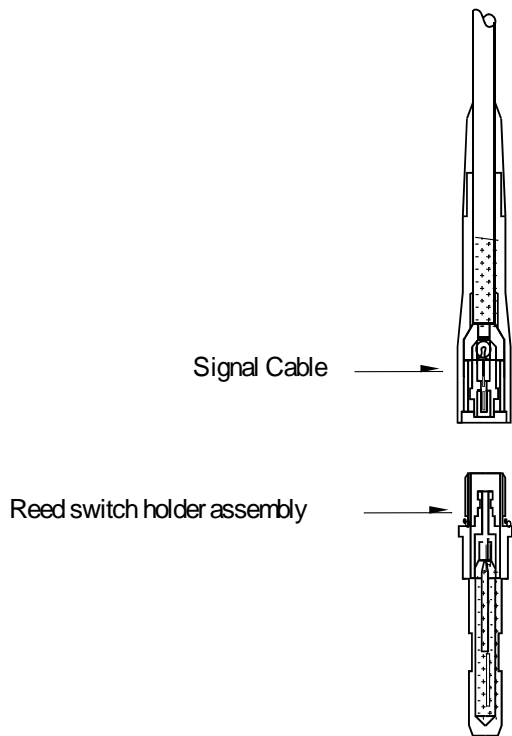

Figure 5 – reed switch assembly
7.5 FIGURE 5 - REED SWITCH ASSEMBLY